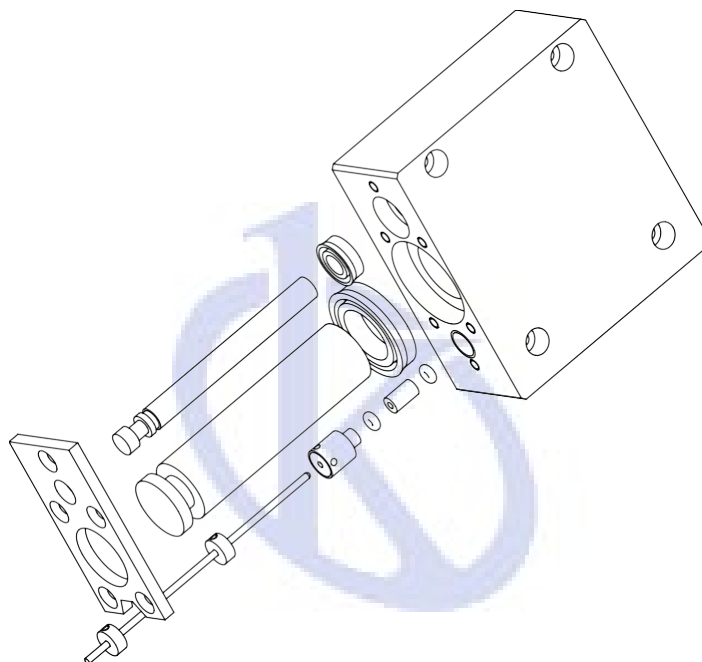

Figure 10-5
- The sample volume is not accurate, please break up the sample piston and o ring seals from the dilutor, change it o ring seals, re-assemble it again, shown as figure 10-5.